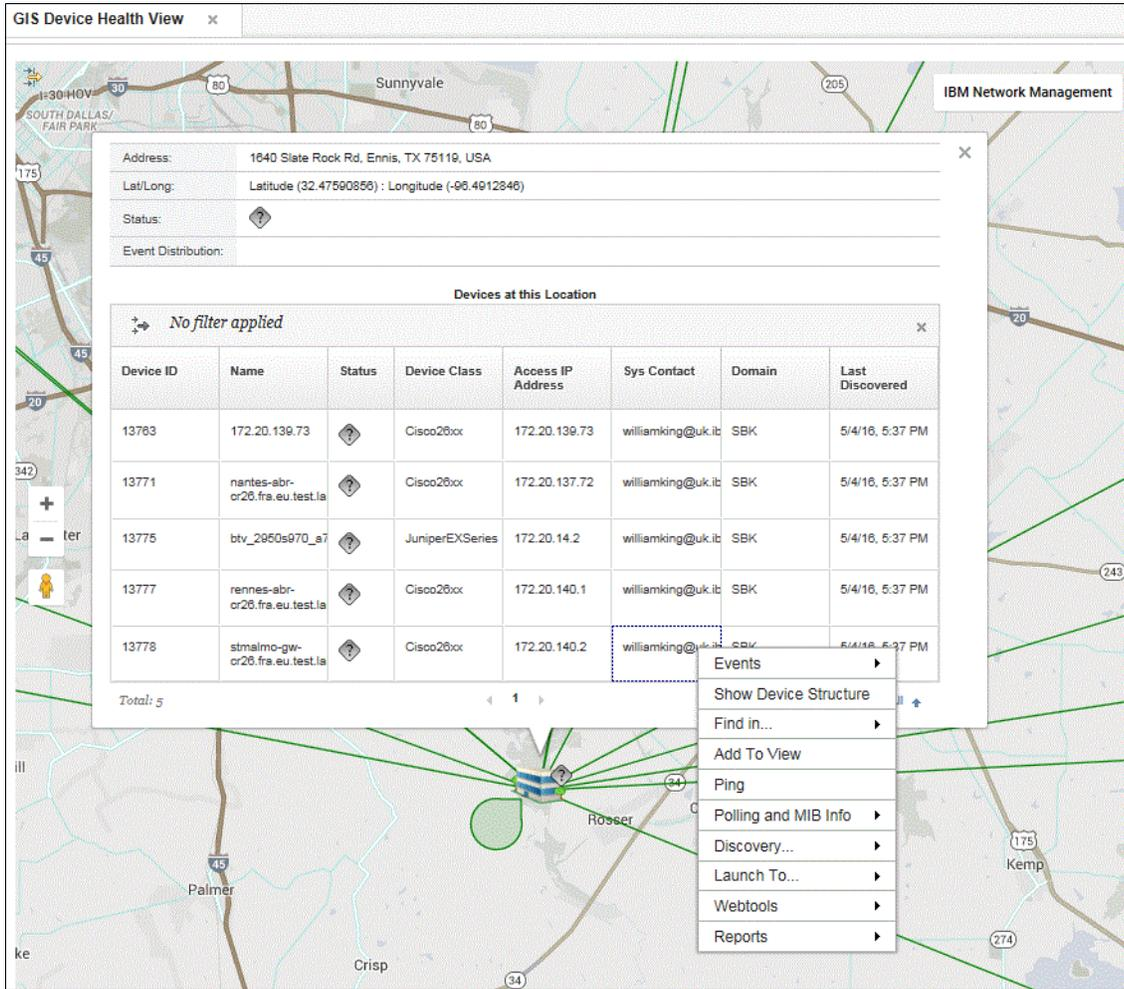

Figure 3-1 Right-clicking building site link
- Use the right-click menu on any row to use the standard context tools for browsing to other topology views, structure browser, Top Performers, or the diagnostic tools, such as Ping and Trace route, as shown in Figure 3-1.